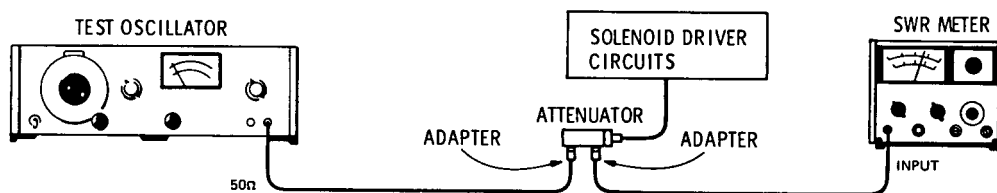

Figure 4 Operator Check Setup
1. Connect equipment as shown in Figure 4 on page 12 with the attenuator set to 0 dB attenuation.